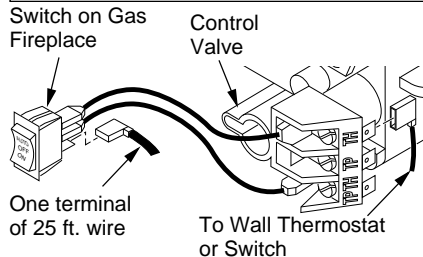

Figure 32 - Connecting Wire Terminals
1. Connect one terminal of 25 ft. wire to bottom contact of switch (see Figure 32).
2. Connect remaining wire terminal to the "TH" terminal on the control valve. Make sure that wire terminals are in the positions on your unit as pictured in Figure 32. If wires are not "crossed" the thermostat will not work.
1. Connect one terminal of 25 ft. wire to bottom contact of switch (see Figure 32, page 20).
2. Connect remaining wire terminal to the “TH” terminal on the control valve. Make sure that wire terminals are in the positions on your unit as pictured in Figure 32, page 20. If wires are not “crossed” the thermostat will not work.